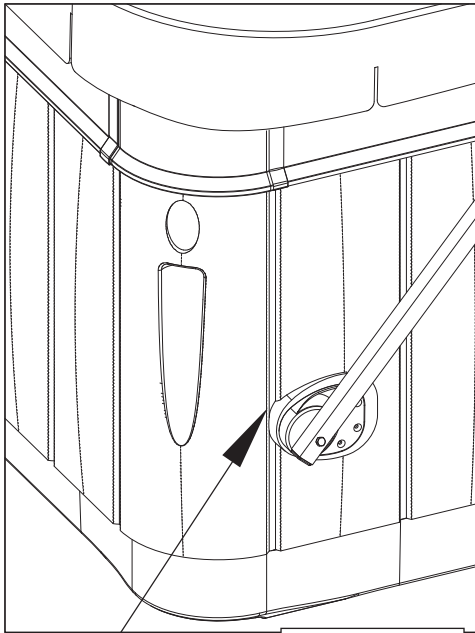

Figure 6.2
**Important:** Make sure that the Spacer (W) back end fits into the vertical groove between the corner and side panel.(Figure 6.2)